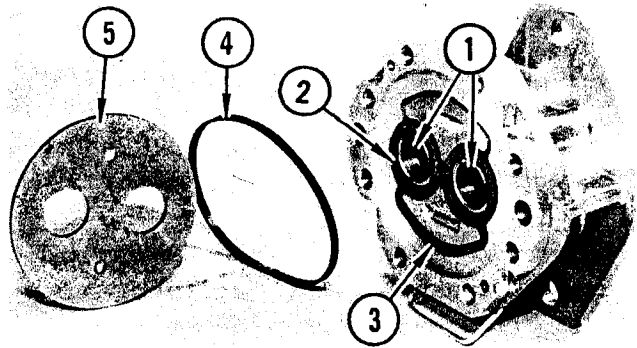

FIGURE 3. MAIN PUMP REASSEMBLY
2. Refer to Figure 3. Press bushings (1) into adapter until bushing is against shoulder in bore. Install seal assembly (2) as follows: